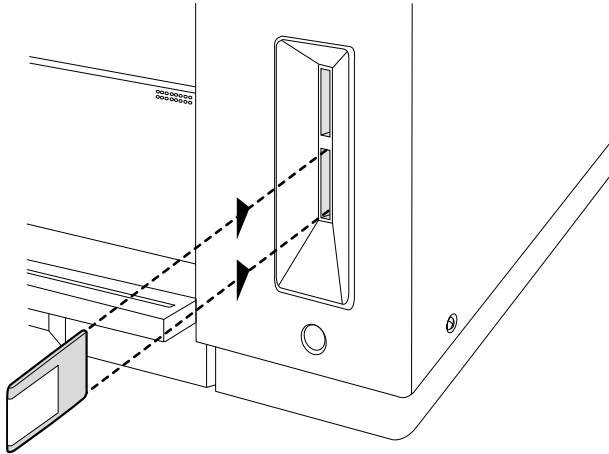

Fig. 8.11 *Insert the Security Card*
2. Insert the security card into either slot with the card's front label facing left, toward the inside of the printer (fig. 8.11).